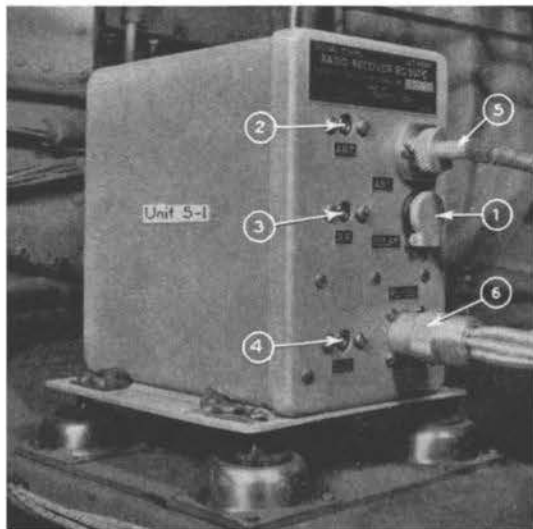

Figure 160. Marker Beacon Receiver
- Unit 5-1** One BC-357-B Marker Beacon Receiver—Located in the bomb bay at Station 5.0 left side. Figure 160.
Marker Beacon Operation (Figure 160)—Since power is derived from the Compass Receiver, it is necessary that the Compass equipment be "ON" for marker beacon operation, which is then entirely automatic without further control.
- c. Use a screwdriver with a $\frac{1}{8}$ " blade for tuning the "Ant." (2) "R.F." (3), and "Det." (4) tuning capacitors, Figure 160. Tune for maximum response on the test indicator. Tune in this order: "Det." (4) "R.F." (3), "Ant." (2), "R.F." (3), "Det." (4). If the "Ant." (2) and "R.F." (3), adjustments are very far off, it is desirable to check from one to the other a couple of times and then tune "Det." (4) last. It has been noted that there is a weak response point at minimum setting of the "Ant." (2) capacitor. In making tuning adjustments be sure that "Ant." capacitor (2), is tuned